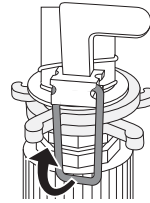

Fig. 8
- ◆ Fold the metal clip ⑤ upwards so that the sprinkler unit ③ rotates 360° (see Fig. 8).